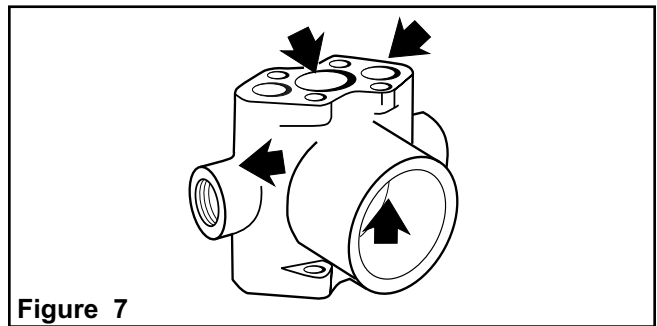

Figure 7
1. Inspect Pump Body for erosion at O-ring seal points in Valve and Piston bores. Check for wear resulting from Main Bearings turning in Housing, especially the Front Bearing area closest to the Cam Bearing. Check for cracks in the Pump Body, particularly at the discharge port and along the casting seam (See Figure 7).
2. Inspect for excessive wear on the Cylinder Heads. This can result from erosion and/or valve seat hammer (See Figure 7).
3. Inspect for pitting and general wear in the Unitized Valves, particularly where the Poppets seal against the seat. If this area is worn, replace all four Valves (See Figure 7).